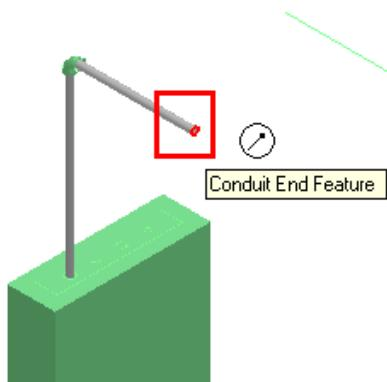

Figure 14: Selected End Feature
58. Select the **End Feature** of the conduit, as shown in Figure 14.